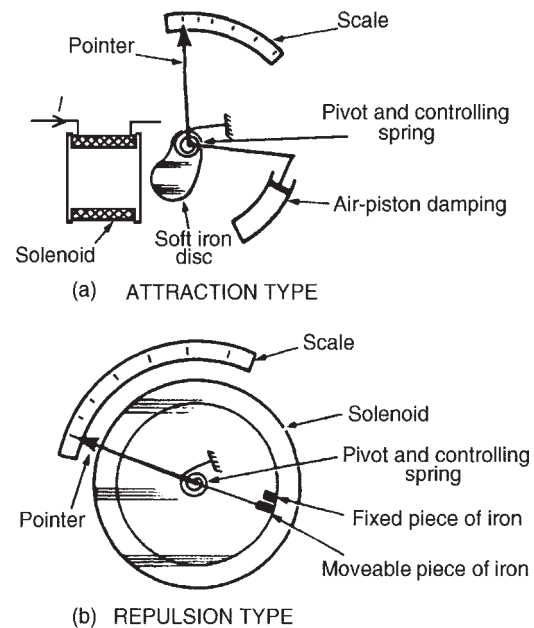

Figure 10.2
- An **attraction type** of moving-iron instrument is shown diagrammatically in Fig. 10.2(a). When current flows in the solenoid, a pivoted soft-iron disc is attracted towards the solenoid and the movement causes a pointer to move across a scale.
- In the **repulsion type** moving-iron instrument shown diagrammatically in Fig. 10.2(b), two pieces of iron are placed inside the solenoid, one being fixed, and the other attached to the spindle carrying the pointer. When current passes through the solenoid, the two pieces of iron are magnetised in the same direction and therefore repel each other. The pointer thus moves across the scale. The force moving the pointer is, in each type, proportional to I^2 and because of this the